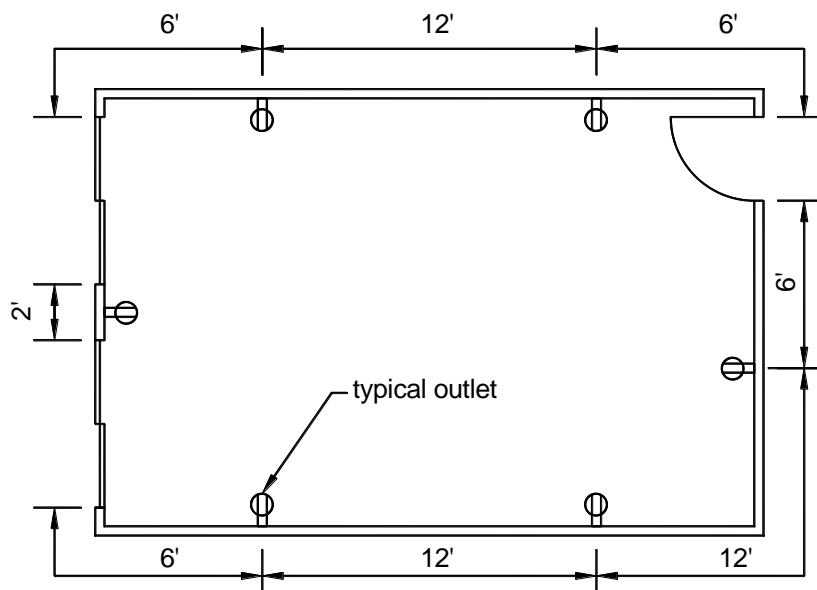

FIGURE 12: TYPICAL OUTLET DISTRIBUTION
- Outlets shall be placed in accordance with FIGURE 12.